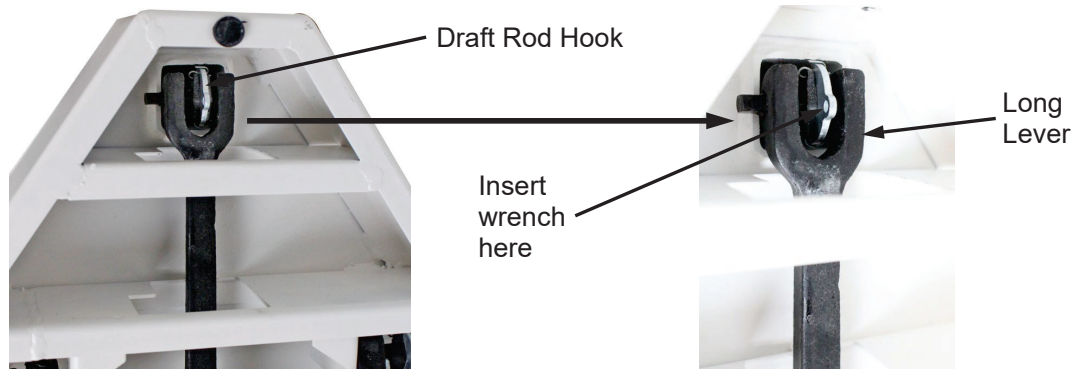

Figure 5. - Connect draft rod hook to long lever
6. Insert the wrench (included) into the small hole in front of the draft rod and pull the draft rod hook with the wrench to connect it to the long lever as shown in Figure 5. The draft rod is located inside the scale column. Once the column is attached to the scale base, the draft rod must be attached to the long lever.
Beam does not move at all during weighing	<ul style="list-style-type: none"> Small and large poise are set higher than the person's actual weight. Reset the both poises to a lower or zero weight. Make sure the draft rod is properly connected and aligned as shown in Figure 5.